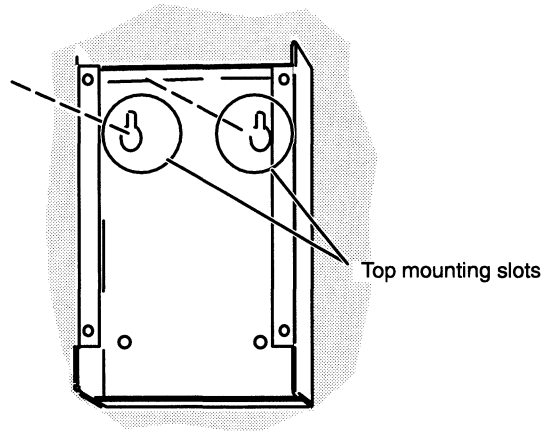

Figure D-15 VAC/16 Junction Box Top Mounting Slots
6. Place the J-box base flat against your mounting surface, and use a pencil to mark the tops of the mounting slots shown in Figure D-15. Use a punch or hammer and nail to make pilot holes for your wall anchors or mounting screws.